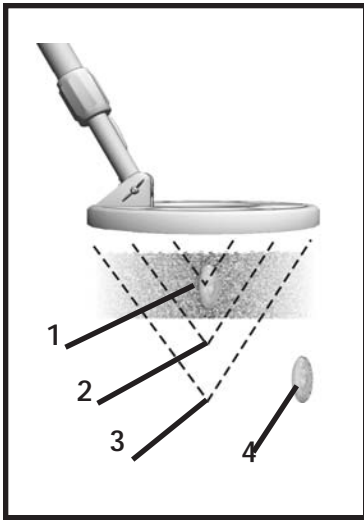

Figure 7. Search coil detection pattern and the effects of sweep, speed, trash rejection and ground mineralization.
5. Always bury a coin when working in unfamiliar territory and check it at different Trash Rejection levels. There is some sensitivity loss at higher levels of discrimination. The greater the ground mineralization, the higher the sensitivity loss. For example, you may be able to detect a penny 6 inches deep at zero discrimination, but no deeper than 4 inches at the pull tab discrimination point (see Figure 7). Also, ground mineralization can reduce a detector's ability to discriminate accurately. In highly mineralized soil, some trash targets may not be rejected.